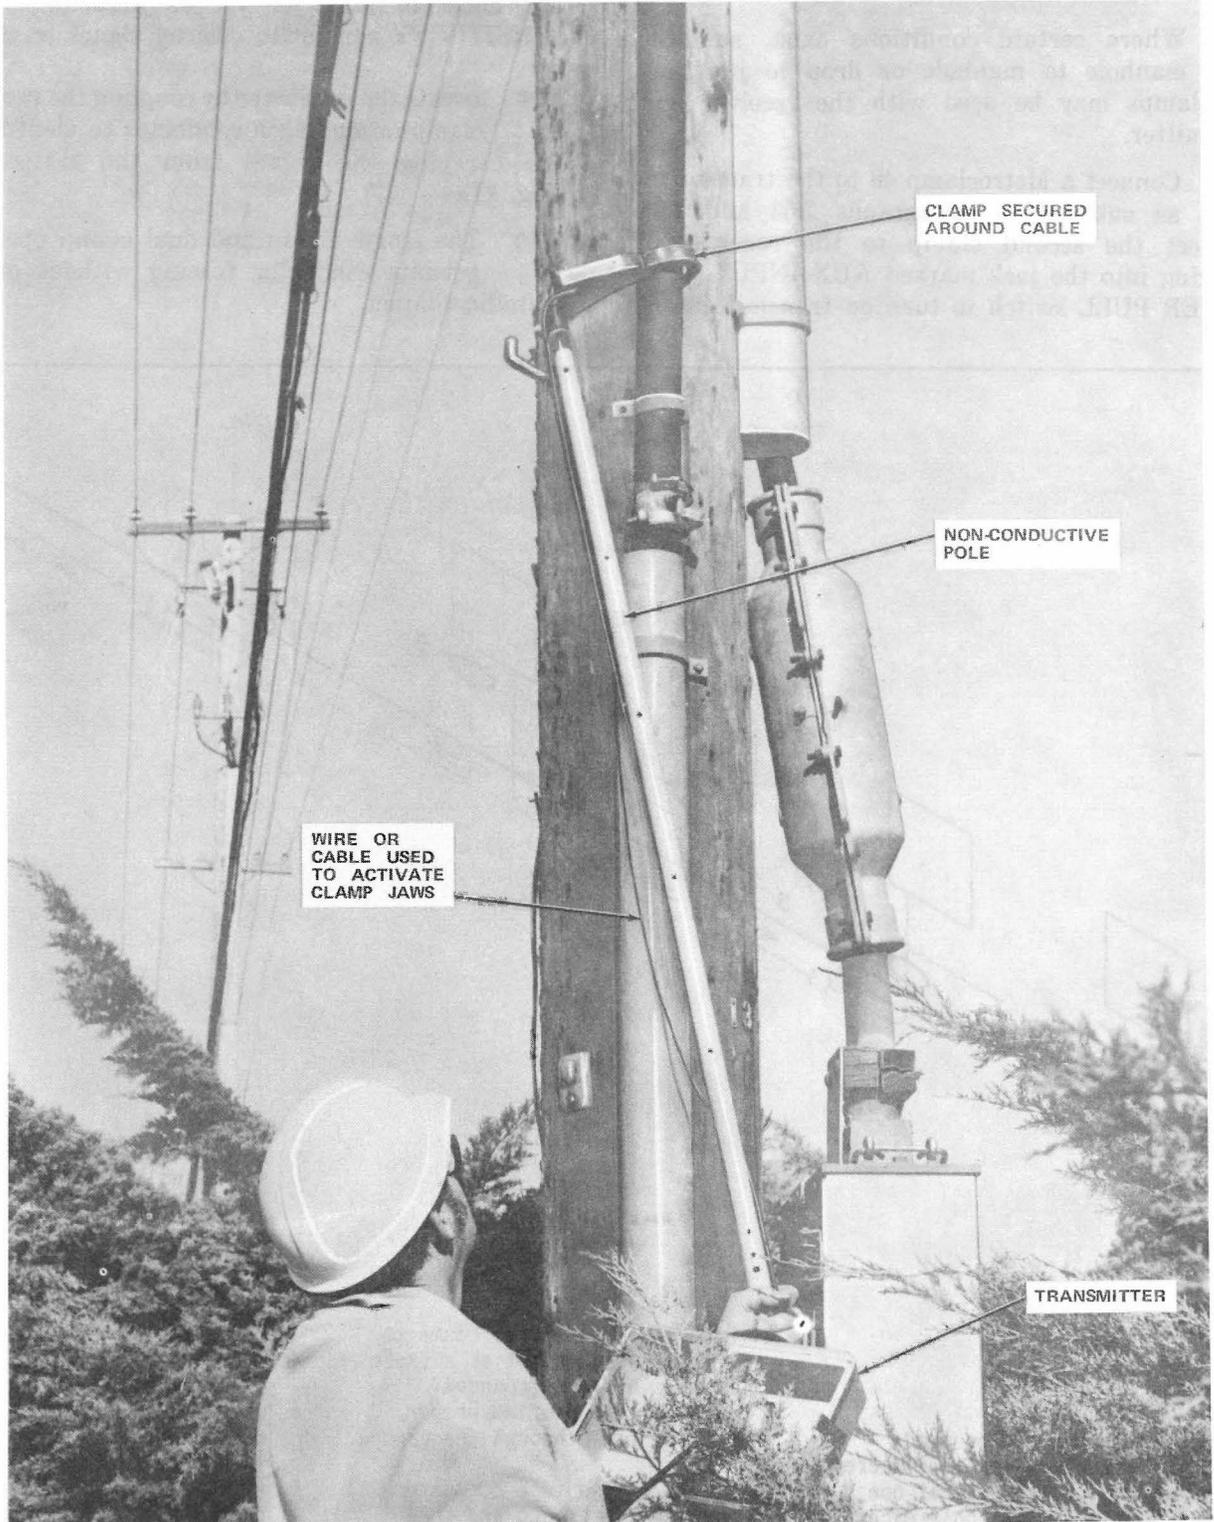

Fig. 10—Testing Conductor Using Metroclamp
**7.04** Clamp the Metroclamp 48 so that the jaws are completely closed around the cable to be tested. When overhead cables are present or when reaching into a manhole, use a nonconductive pole with a 1/4 X 20 threaded stud at one end. This permits remote operation of the clamp (Fig. 10).